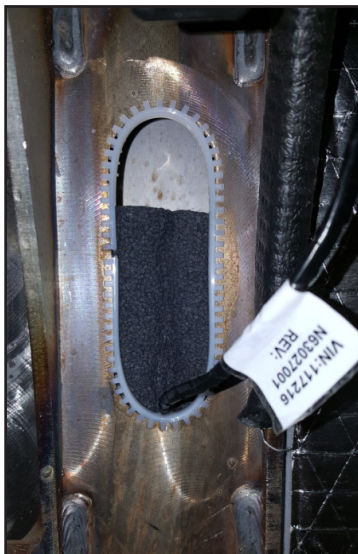

Figure 6 - Installation of Large Coil Foam Piece
- 1.9. When installing, ensure that the foam fully expands inside the structure tube to block the air passage. The foam piece is oversized and will hold in place on all 4 surfaces (see Figure 6).
- 1.10. Ensure that at least 50% of the foam is hidden inside the tube (see Figure 6).